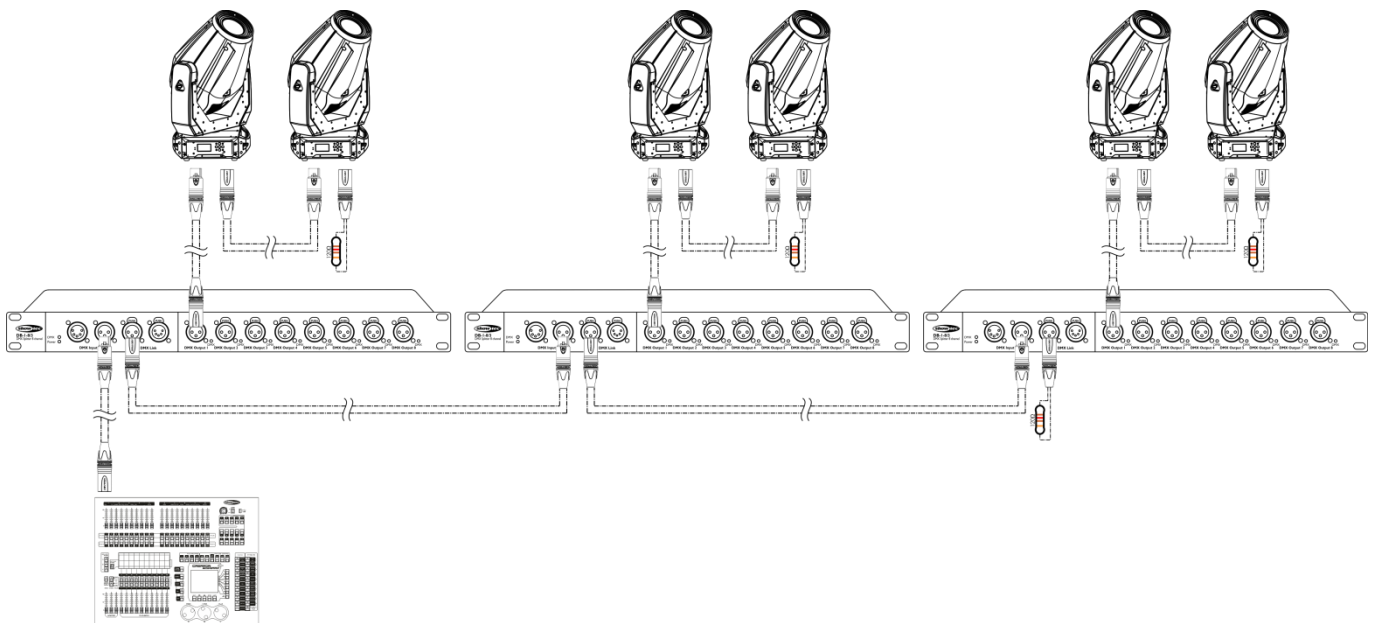

Fig. 03
- 04) Link the units as shown in fig. 03. Connect the first unit's DMX "link" socket with the second unit's "in" socket, using a DMX signal cable. Repeat this process to link the second, third, and fourth units.